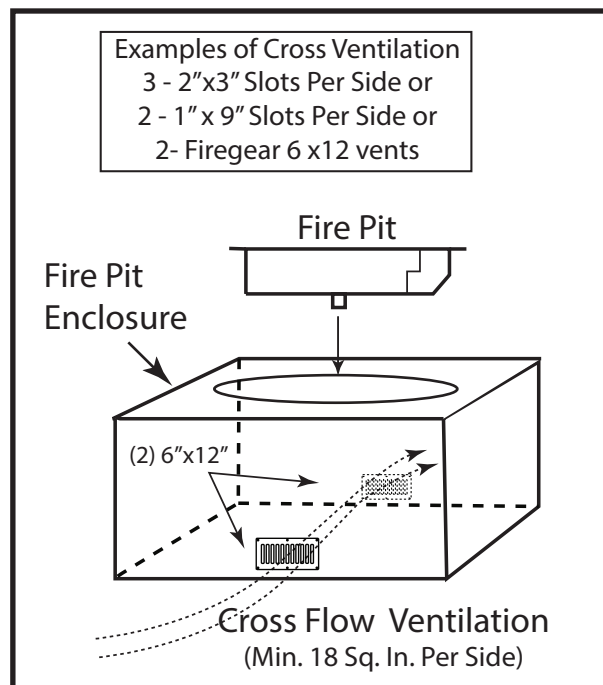

Fig. 5 Cross Ventilation Example
3. The primary gas shut-off (not supplied) will require a 1/2" male flared fitting to enable connection of the stainless steel flex gas line supplied with the fire pit (see figure 5 page 6).
Fire pits are subjected to many outdoor elements such as rain, snow, wind, heat or cold. **A minimum of 18 square inches of cross ventilation (2 sides) is required to keep the components in good working order.** Use figure 5 as guide to assist to incorporate proper ventilation.
The key valve contents: 1- key valve, 1- key and 1- flange. (See figure 6). The valve requires a 1 1/4" round clearance hole in the non-combustible enclosure wall. See the instructions supplied with the key valve for more specific details. Note: Be sure to leak test all fittings before operation. Figure 5 shows an example of a typical installation.